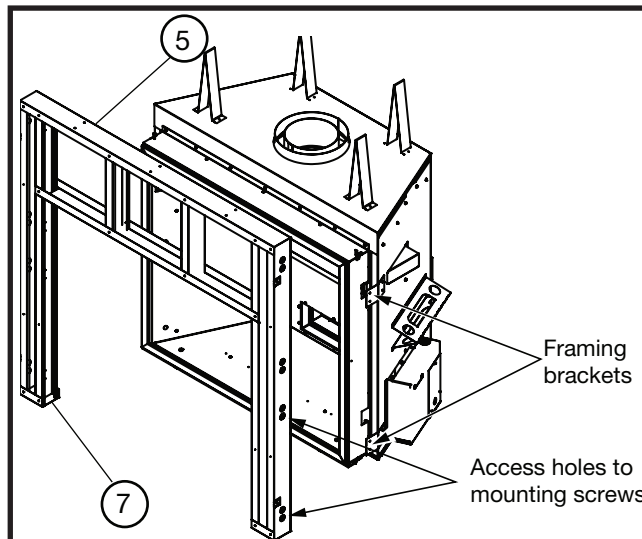

Figure 16: Assembled frame.
Align the assembled frame to the fireplace framing brackets (Figure 16). Attach at the fastening points through the access holes in the outer side studs (3).